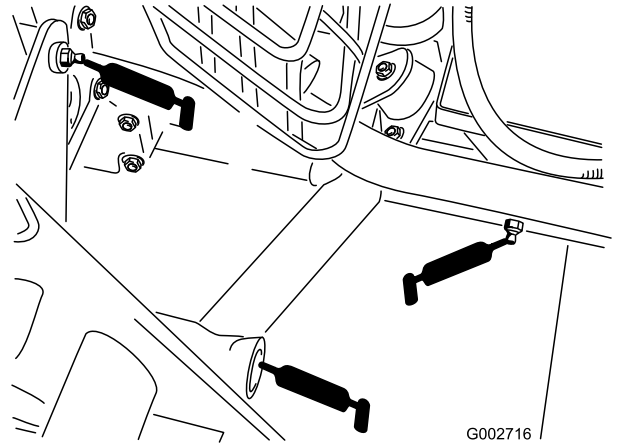

Figure 21
- 5 Rear hitch bearings (Figure 21).